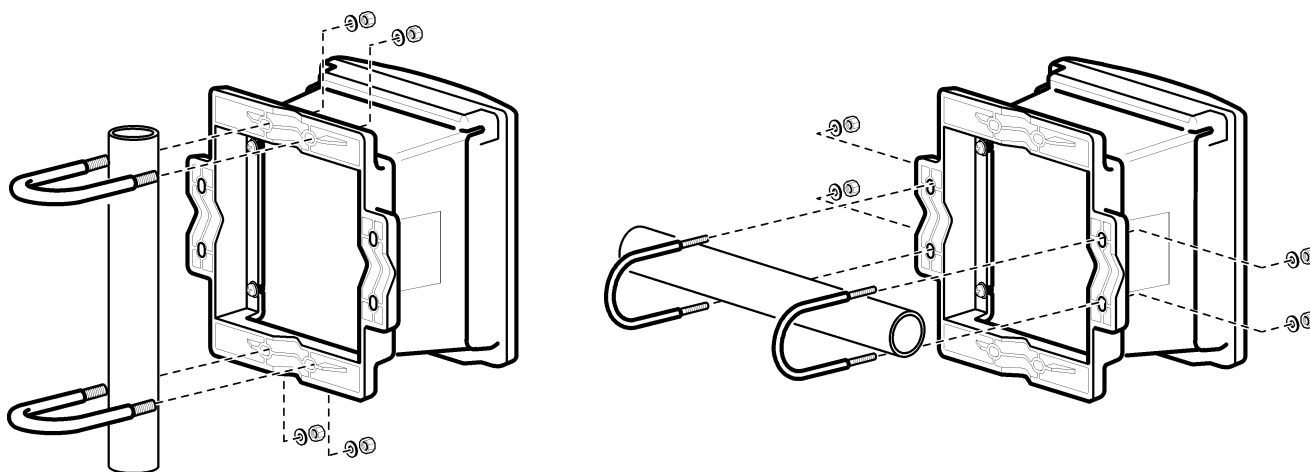

Figure 3 Pole mounting
4. Place the curve of one U-bolt behind the pole, and insert the threaded ends of the bolt through two of the center holes on the mounting bracket (Figure 3).